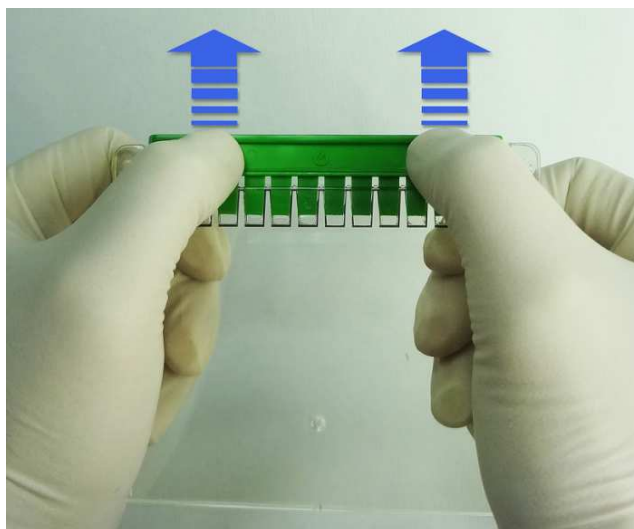

Figure 2. Remove the comb from the gel cassette
3. Gently remove the comb from the gel cassette (see Figure 2).